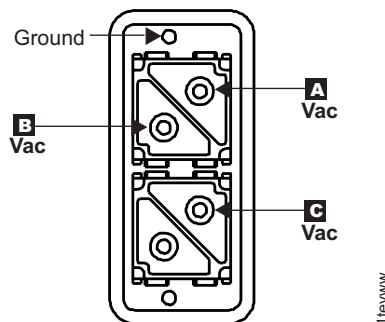

Figure 80. Mainline power cable connector
3. Measure the voltage between the ground pin and each voltage pin (**A** , **B** , and **C**) on each mainline power cable. Refer to Figure 80.
4. Locate the DS8000 information label located on the top of the left side panel at the rear of the storage facility. Measure the voltage between each pair of voltage pins (**A** to **B** , **B** to **C** , and **C** to **A**) on each mainline power cable. Refer to Figure 80. Verify that the customer AC input voltage that you just measured matches the machine input voltage information on the label.